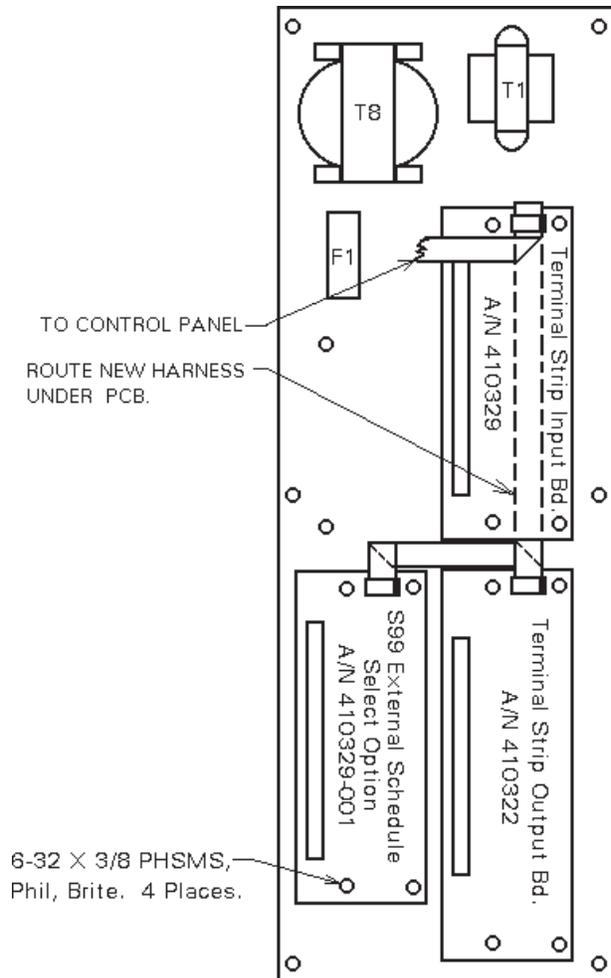

Figure C4. Mounting detail for
3. Mount S99 Option PCB (A/N 410329-001) to existing spacers using four (4) 6-32 x 3/8 PHSMS, Phil., Brite (see Figure C4).